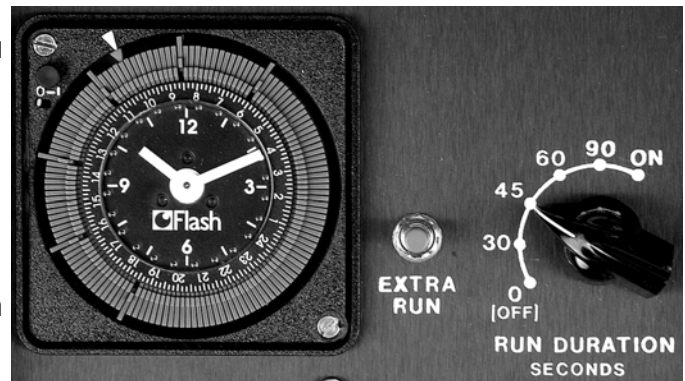

Figure 8 – Timer, Extra Run Button and Duration Selector Switch
22. Select the tripper for the time of day you want the system to operate by using a ball point pen or similar object to move the switch **OUT** into the **ON** position (figure 8). Red will show when switch is in **ON** position. Repeat the above for each time you want the system to operate. Spray times should be set from early morning to dusk. Your unit is shipped with timer set for six firing times.
23. Set the run duration selector switch to length of spray time desired. When first starting system, we recommend setting timer to operate 6 times for 45 seconds. When area is under satisfactory control (10 to 14 days), cut back the number of spray cycles and duration time to maintain control. NOTE: System will run continuously when run duration selector switch is in “ON” position. System will not operate when switch is in “OFF” position. Red “EXTRA RUN” button can be used at anytime to test system or for extra spraying (figure 8). **CLOSE TIMER LID WHEN FINISHED.**